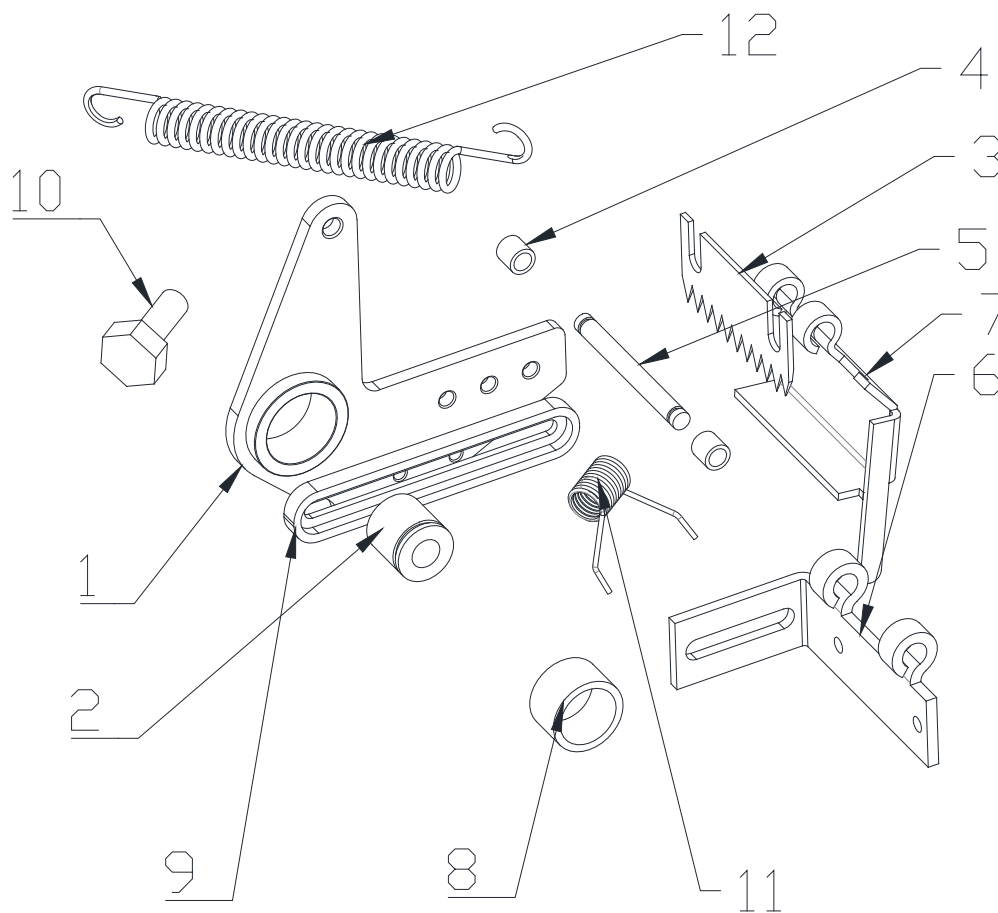

Figure 17
6.5.3 The cutter part (See Figure 17):